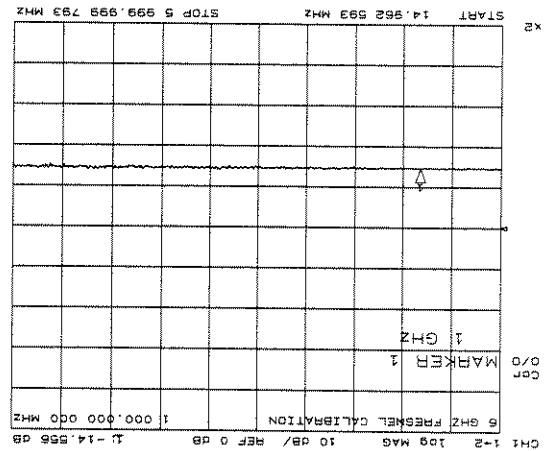

Figure 24. 6 GHz Fresnel Reflection Calibration
-14.6 dB, similar to the plot as shown in Figure 24. This is the corrected frequency domain response of the Fresnel